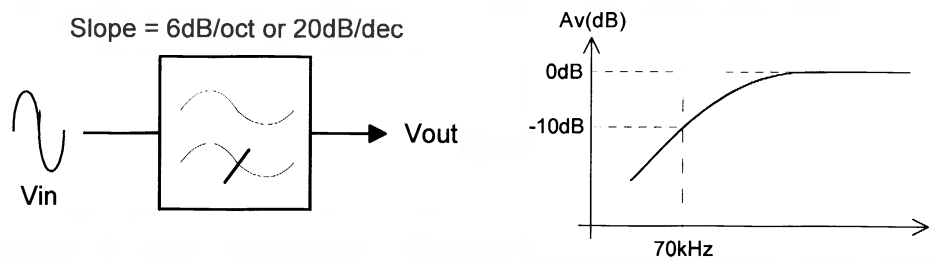

Figure 14
1. What is the gain (in dB) of the filter in Figure 14 at the following frequencies: